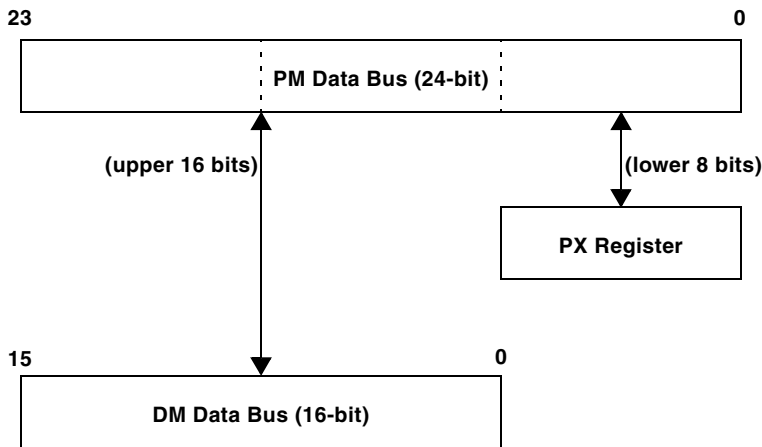

Figure 4-2. PM Bus Exchange (PX) Registers
The internal data buses let programs transfer the contents of one register to another or to any internal memory location in a single cycle. As shown in Figure 4-2 on page 4-9, the PM Bus Exchange (PX) register permits data
to flow between the PM and DM data buses. The PX register holds the lower eight bits during transfers between the PM and DM buses. The alignment of PX register to the buses appears in Figure 4-2 on page 4-9.